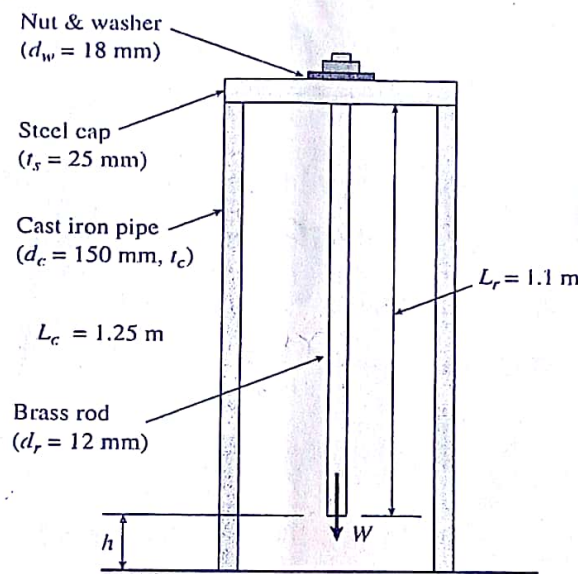

Fig. q 3a
- a) A hollow, circular, cast-iron pipe ($E_c = 83$ GPa) supports a brass rod ($E_b = 96$ GPa) and weight $W = 9$ kN, as shown in fig. q 3a. The outside diameter of the pipe is $d_c = 150$ mm.